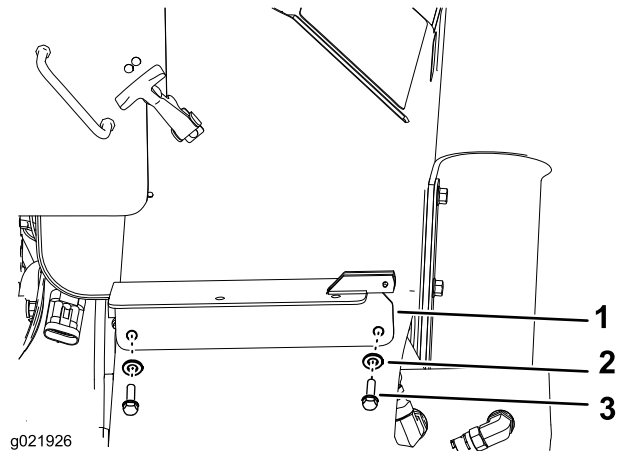

Figure 8
3. Install the bracket and secure with the 2 nuts (3/8 inch), the 2 washers (3/8 inch), and the 2 bolts (3/8 inch) (Figure 8); torque to 38 to 43 N-m (28 to 32 ft-lb).